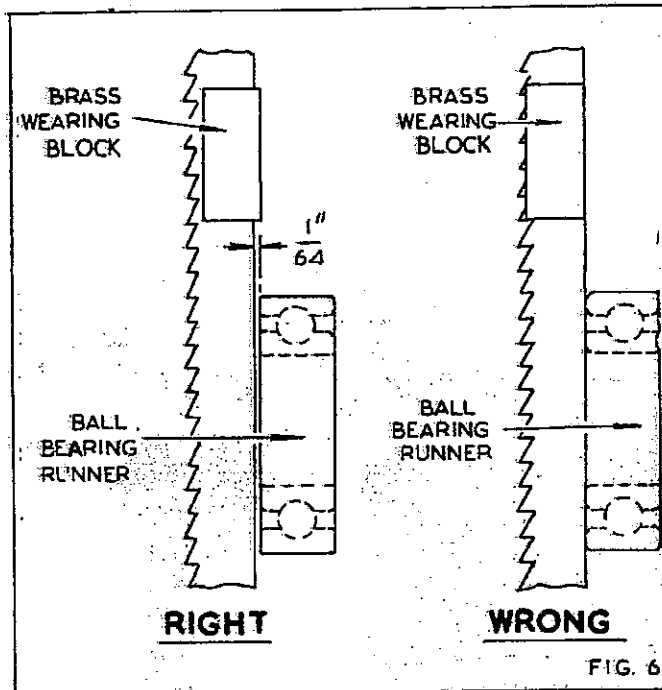

FIG. 6.
1. Bring guide assembly forward, by loosening ball lever screw securing the complete guide assembly in guide rise and fall post, until the brass wearing blocks are positioned just behind the gullet of the sawblade as shown in Fig. 6. Re-lock complete guide assembly in this position.
1. Bring guide assembly forward by loosening ball lever screw securing the complete guide assembly in the bottom mainframe, until the brass wearing blocks are positioned just behind the gullet of the sawblade, as shown in Fig. 6. Re-lock complete guide assembly in this position.